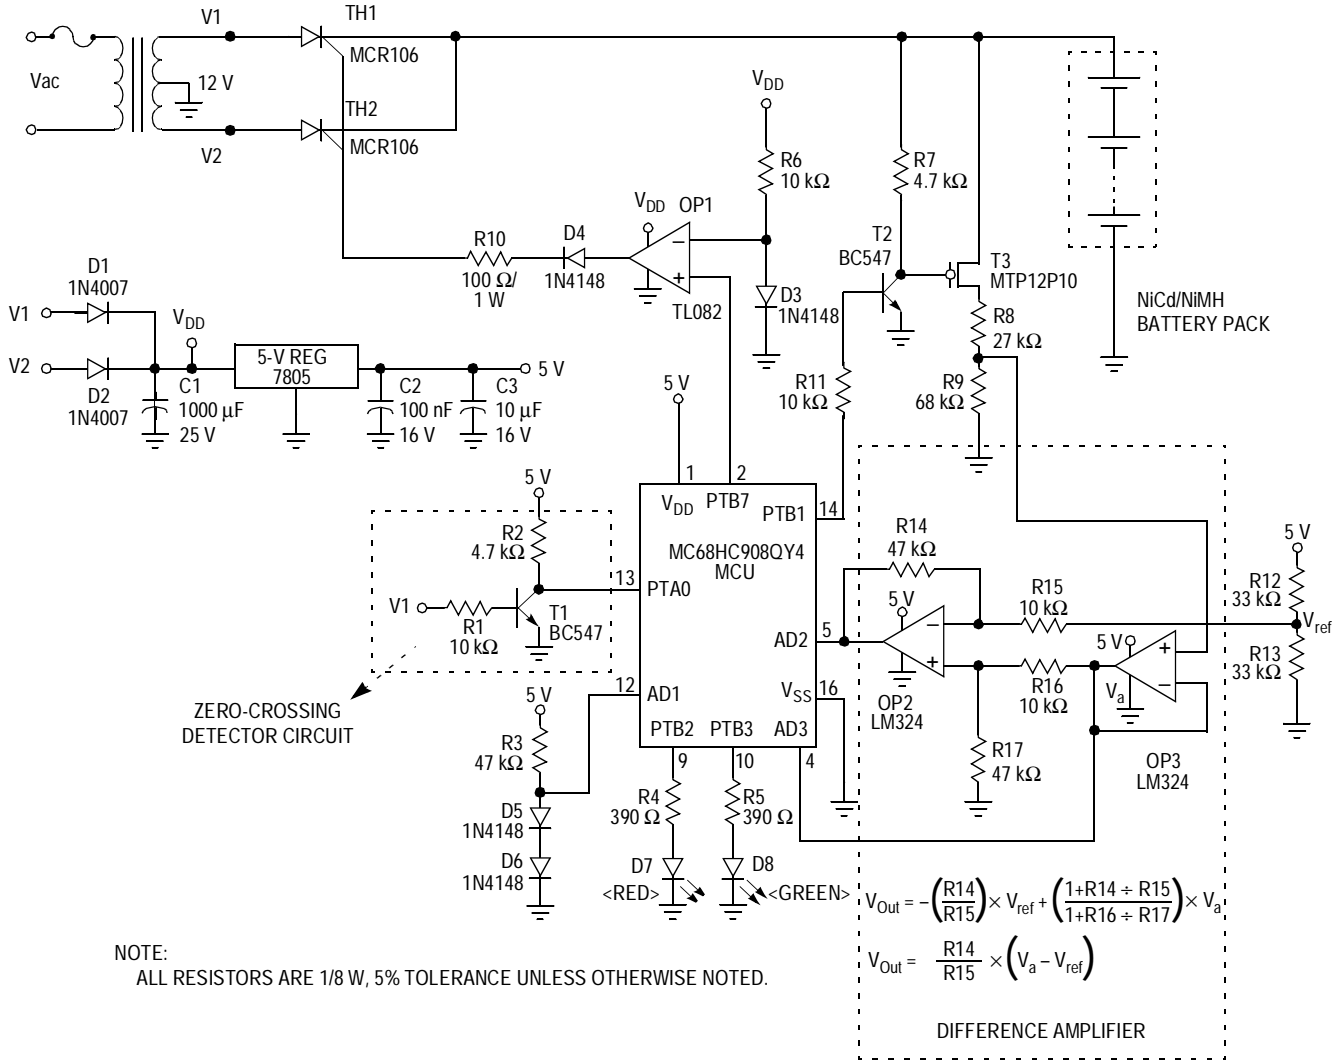

Figure 3. Battery Charger Circuit Diagram
Figure 3 is the smart NiCd/NiMH battery charger circuit diagram. The system combines the voltage flat and the absolute temperature detection techniques followed by the trickle charge method to charge a NiCd/NiMH battery pack with three cells.
7. The system subtracts the reference voltage ( $V_{ref}$ ) from the voltage on the battery packs using the difference amplifier (as shown in Figure 3). The MC68HC908QY4 MCU converts that data to a digital word using its internal ADC and the AD2 channel.